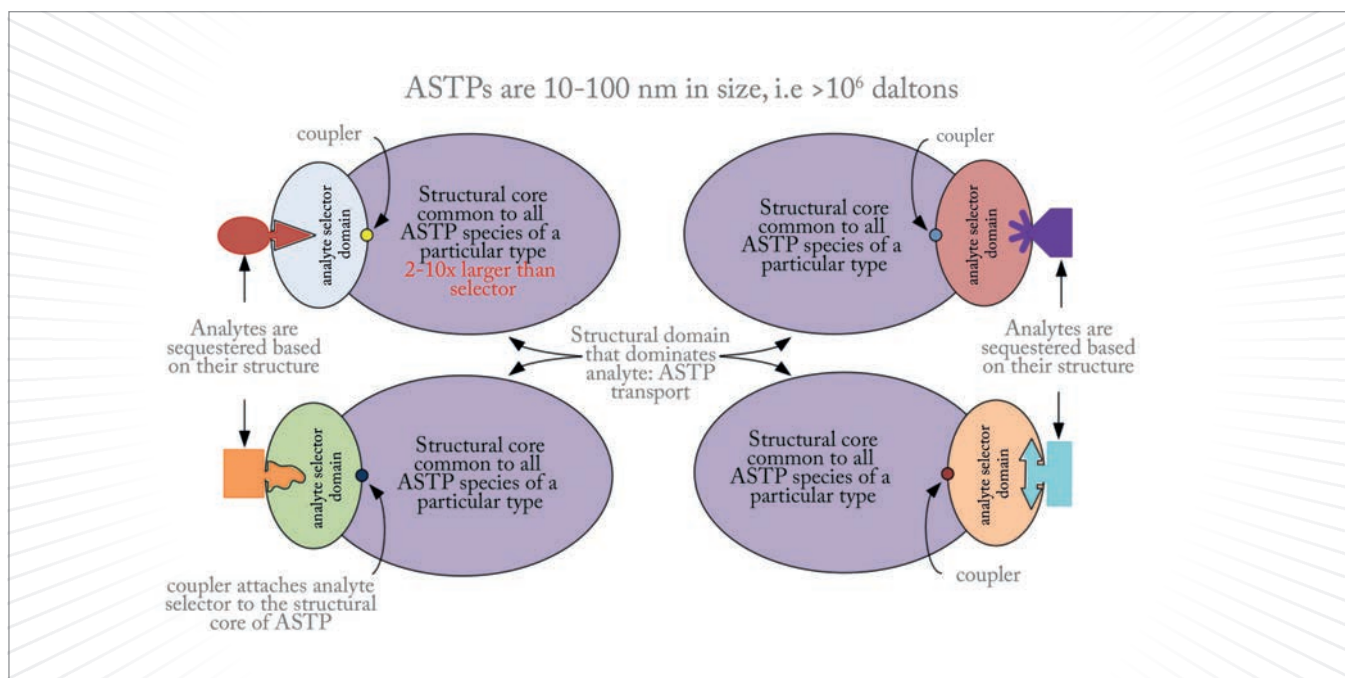

Figure 4. An illustration of the components in an analyte sequestering transport particle (ASTP).
The  $P_t$  used in our early MASC experiments is composed of 20-80 nm hydrocolloids with coupled affinity selectors. These analyte-sequestering transport particles (ASTPs) are larger than most substances in plasma while being sufficiently small to pass readily between the particles in a size exclusion chromatography (SEC) column or restricted access media (RAM) system. Single-structure specific-affinity selectors ( $S_a$ ) were a component of each ASTP (see Figure 4) and, in our early studies, were antibodies (Ab) with an analyte association constant typically exceeding 106. Subsequent to association with the Ab, analytes are transported through MASC columns without desorption from the ASTP (4).